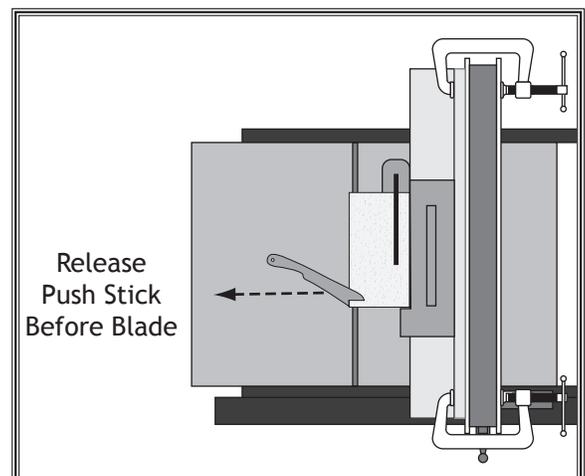

Figure 99. Ripping with push block.
6. Guide workpiece rest of the way through cut with push block, as shown in **Figure 99**.